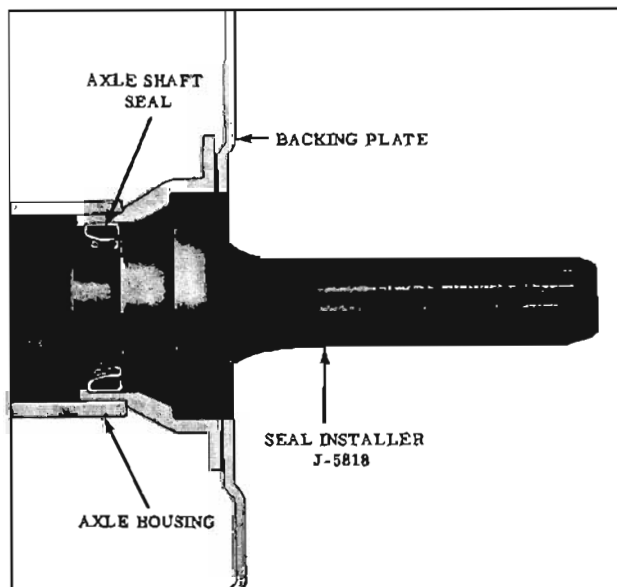

Fig. 9-44 Installing Rear Axle Oil Seal
2. Position seal into axle housing. Drive seal into housing with Tool J-5818 until seal is fully seated. (Fig. 9-44)